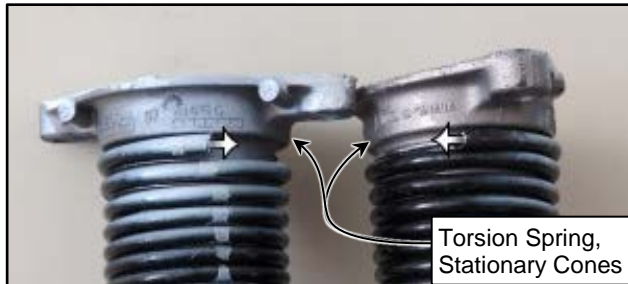
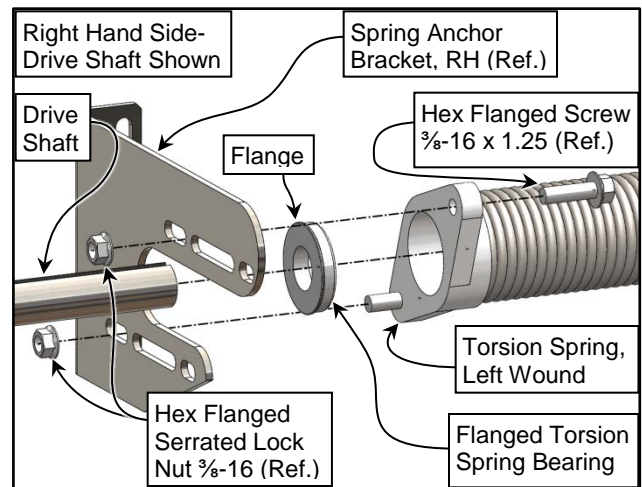

Figure 68
Figure 69
3. Locate & identify the torsion springs. Stand the springs up against the wall as pictured here with the stationary cone at the top-winding cone on the floor. Take a close look at the ends of the springs. Position and turn them so the ends on the top are facing you and pointing to each other as pictured here. (See Figure 68)
4. Locate the Flanged Torsion Spring Bearings. Orient each bearing so it seats into the torsion spring stationary cone. Install them into the Torsion Spring's end as shown & onto the drive shaft oriented specifically for each side. The flange will appear as shown when installed. (See Figure 68 & Figure 69)
5. Lubricate. Lubricate the Torsion Spring Bearings, the bearing's inner shoulder, and the drive shaft with 40 weight motor oil. Install the torsion springs onto the drive shaft on their respective sides as shown. The stationary cones-Torsion Spring Bearings must slide on first & be located at the shaft center. The winding cones must be located toward the outside/ends of the drive shaft. If necessary, back out the setscrews in the winding cones and/or remove any burrs/rough areas from the drive shaft/bearing mating surfaces for smooth assembly. (See Figure 69)